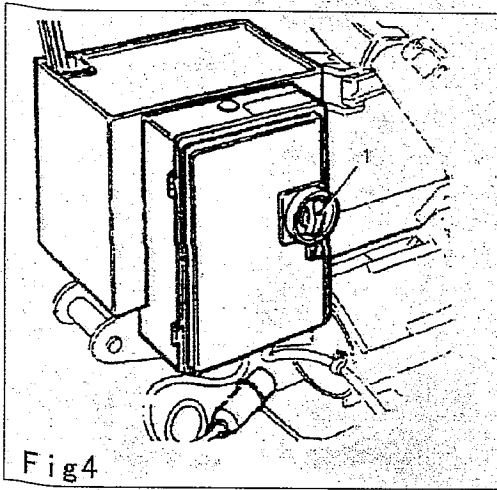

Fig4
Remarks: both electrical motor and the hydraulic unit motor are equipped with an overload cutout (fig 4) against overloads.
Turn on the main switch 1 (fig. 4) to start the motor. Step the left pedal (7),